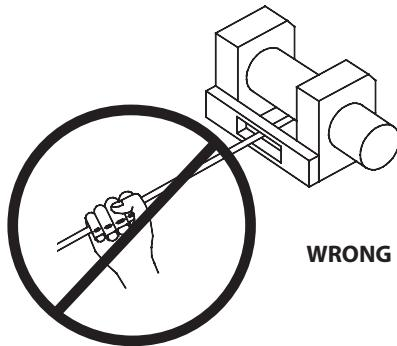

Fig. 5
**DANGER** Never touch the rope or hook while they are in tension or under load. Even at rest, the winch may have the rope in tension. Never guide a rope under tension onto the drum with your hands (see Fig. 5).